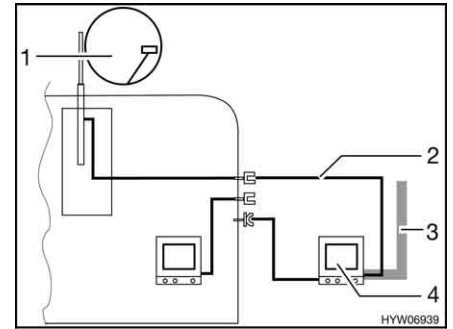

Fig. 172 TV in the awning
- TV inside the awning (Fig. 172,4): Connection to roof antenna (Fig. 172,1) with connection cable (Fig. 172,2)
- TV inside the awning (Fig. 172,4): Connection to external antenna (Fig. 172,3)